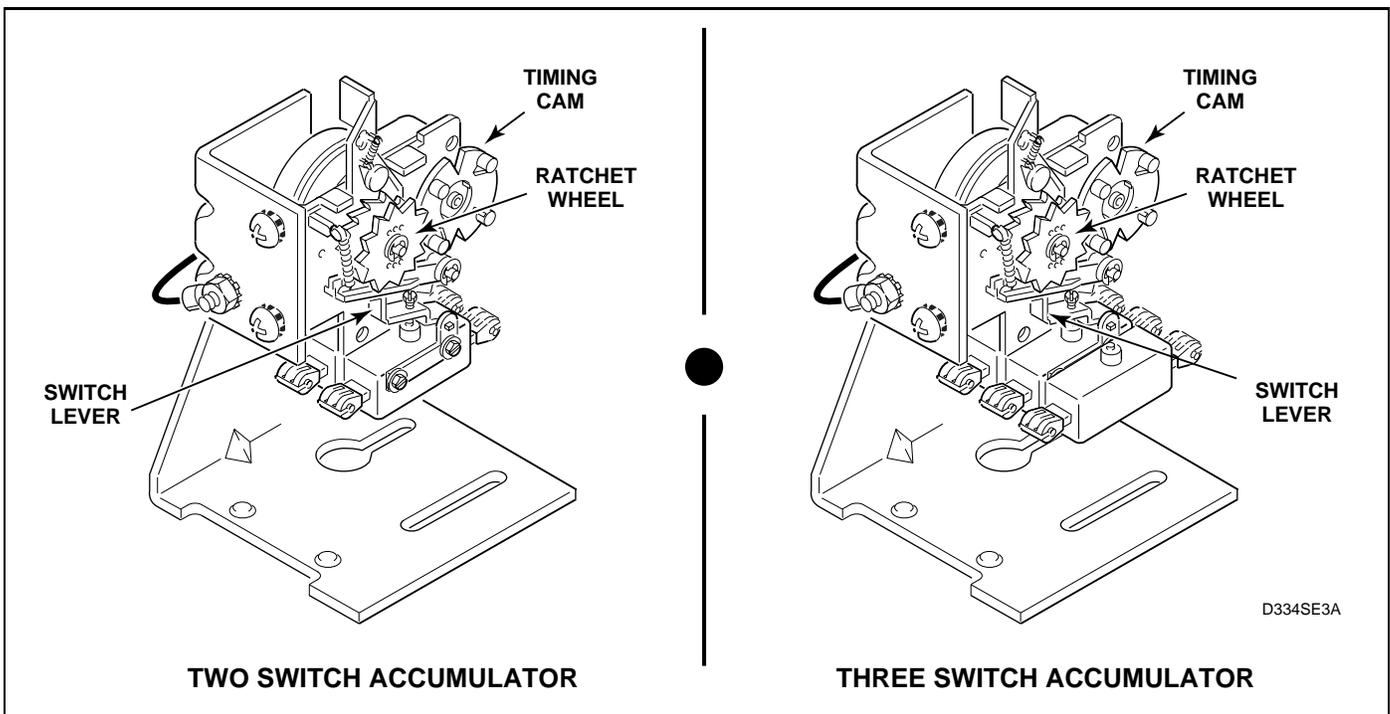

Figure 67
78. ACCUMULATOR AND TIMING MOTOR (Metered Models – Figure 67)